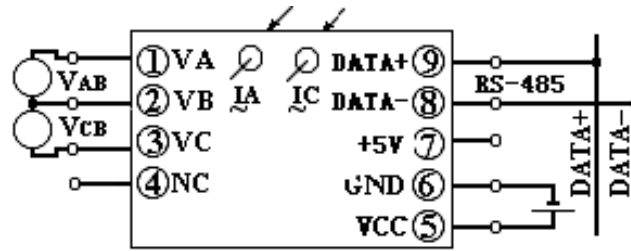

Figure 6.1 3-phases 3 wire CE-AJ31-\*\*BS3 wiring diagram
6.1 Three-phase three-wire (two-table method) Double isolation S3-type product wiring Refer to Figure 6.1.